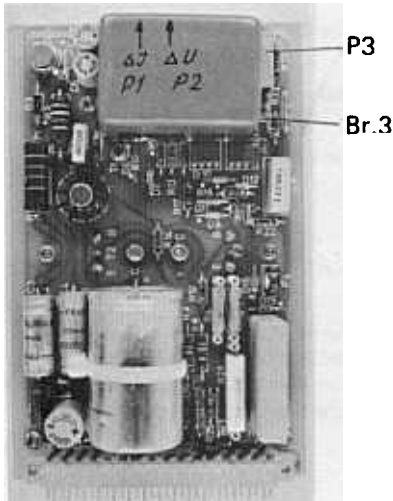

Fig. 7 Coil printed circuit E 4
- 8. Coil printed circuit E 4 (see Fig. 7).